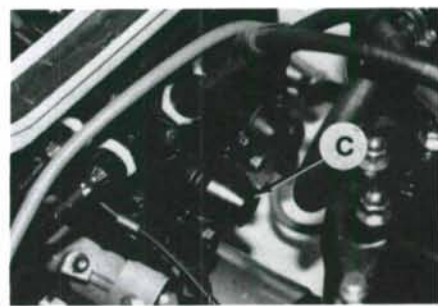

Fig. JS2-22—Remove cap (C) to expose six-wire connector. Refer to text.
Remove cap (C—Fig. JS2-22) and withdraw six-wire connector. Separate connector halves to expose terminal ends of wires leading to pulser coil (1—Fig. JS2-23) and exciter coil (2). Check condition of pulser coil (1) by attaching one tester lead to terminal end of red wire (R) and attaching other tester lead to terminal end of gray wire (Gr). Pulser coil can be considered satisfactory if resistance reading is within the limits of 20-30 ohms. Check condition of exciter coil (2) by attaching one tester lead to terminal end of red wire (R) and attaching other tester lead to terminal end of black wire (B). Exciter coil can be considered satisfactory if resistance reading is within the limits of 216-324 ohms. Pulser coil and exciter coil are serviceable after removing flywheel cover and flywheel. Make sure a suitable puller is used to withdraw flywheel. Tighten flywheel retaining nut to 160 N·m (115 ft.-lbs.). Recheck ignition timing as previously outlined under IGNITION TIMING. Apply a water-resistant grease on flywheel cover "O" ring. Apply a suitable thread locking solution on threads of flywheel cover retaining screws, then install flywheel cover and securely tighten screws.
(C—Fig. JS2-22) and withdraw six-wire connector. Separate connector halves to expose terminal ends of wires leading to charge coil. Refer to Fig. JS2-23. Check condition of charge coil (3) by attaching one tester lead to terminal end of one light green wire (Lt G) and attaching other tester lead to terminal end of remaining light green wire (Lt G). Resistance reading should be 2.4-3.6 ohms. Check resistance between each charge coil wire and black wire. Tester should show 1.2-1.8 ohms resistance at each wire. To check rectifier/regulator assembly, refer to chart shown in Fig. JS2-24. To check rectifier/regulator during operation, first make sure battery is fully charged, charge coil test good and all wiring is in good condition and all connectors fit tightly or are securely fastened. Attach test leads of a suitable voltmeter directly on battery terminals.